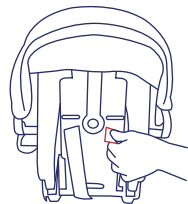

Fig. 33-1
- 12.2.7) From the rear of the Safety Seat, pull the Harness Straps through the Slots until you have enough strap to reach the Belt Adjuster Plate. (See Figure 33-1)